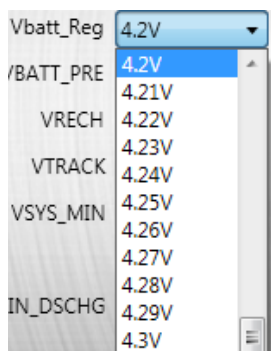

Figure 11: Charge-Full Voltage Setting
9. Set the charge-full voltage (see Figure 11). Its range is 3.4V to 4.67V, and the default value is 4.2V.